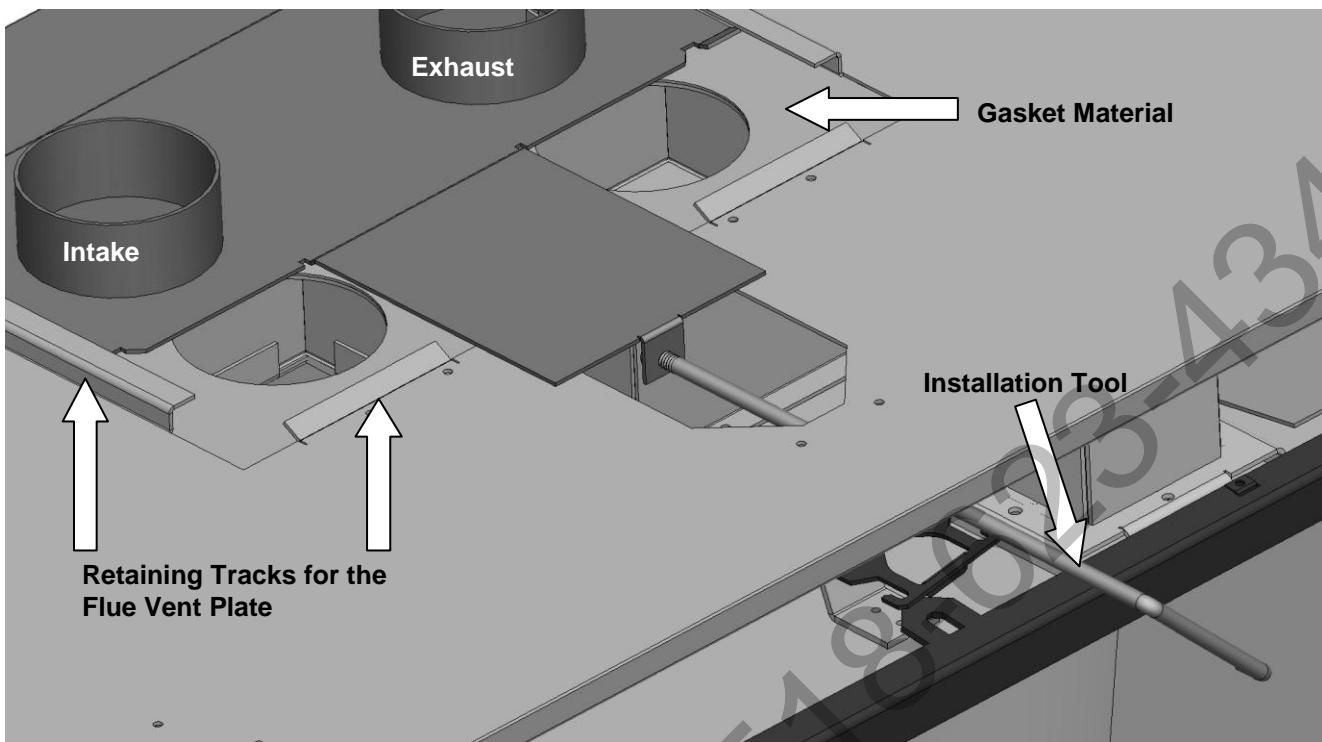

Figure 20 – Flue Plate & Installation Tool Detail
5. Carefully position the DVI 38 in front of the fireplace opening. Slowly slide the insert back so the rear of the insert is just inside the fireplace. Start the Flue Vent Plate underneath the Retaining Tracks on the top of the insert. (See Figure 20) The Retaining Tracks will ensure a tight seal for the flue gases when the plate is fully seated.